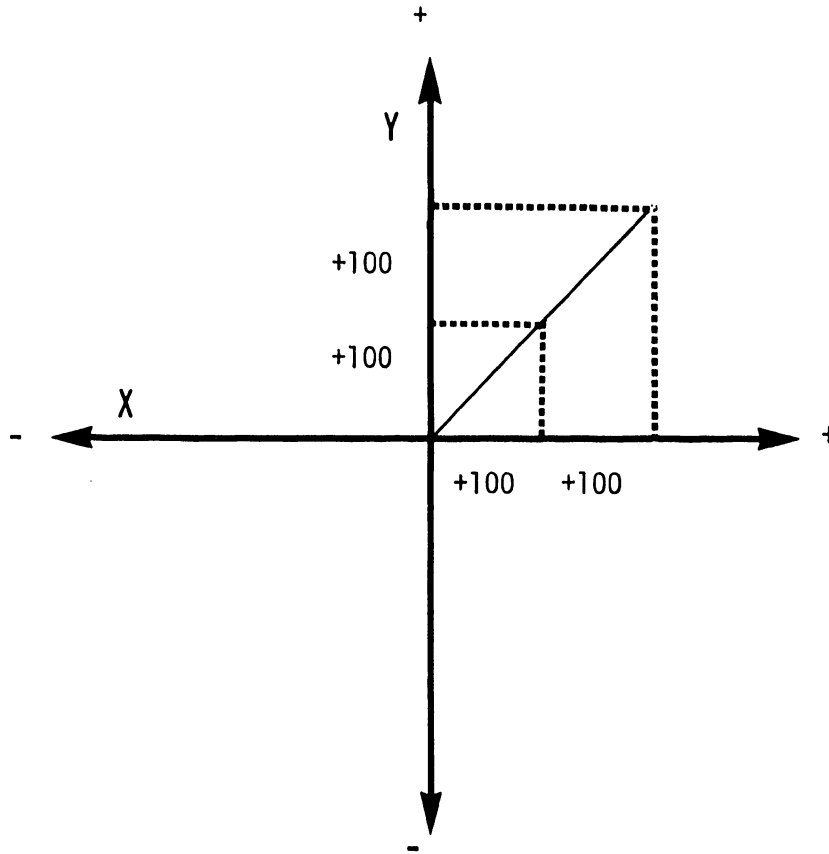

FIGURE 6
2) Assuming new zero reference axes, if the plot-pen down command is given twice, Figure 6 will result.